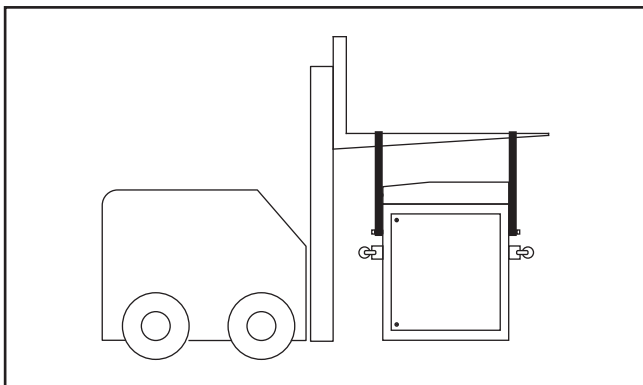

Figure 29. Example of lifting planer with forklift.
4. Place (4) safety hooks and chains under lifting bolts (see **Figure 29**). Make sure chains are not in contact with any controls or handles.